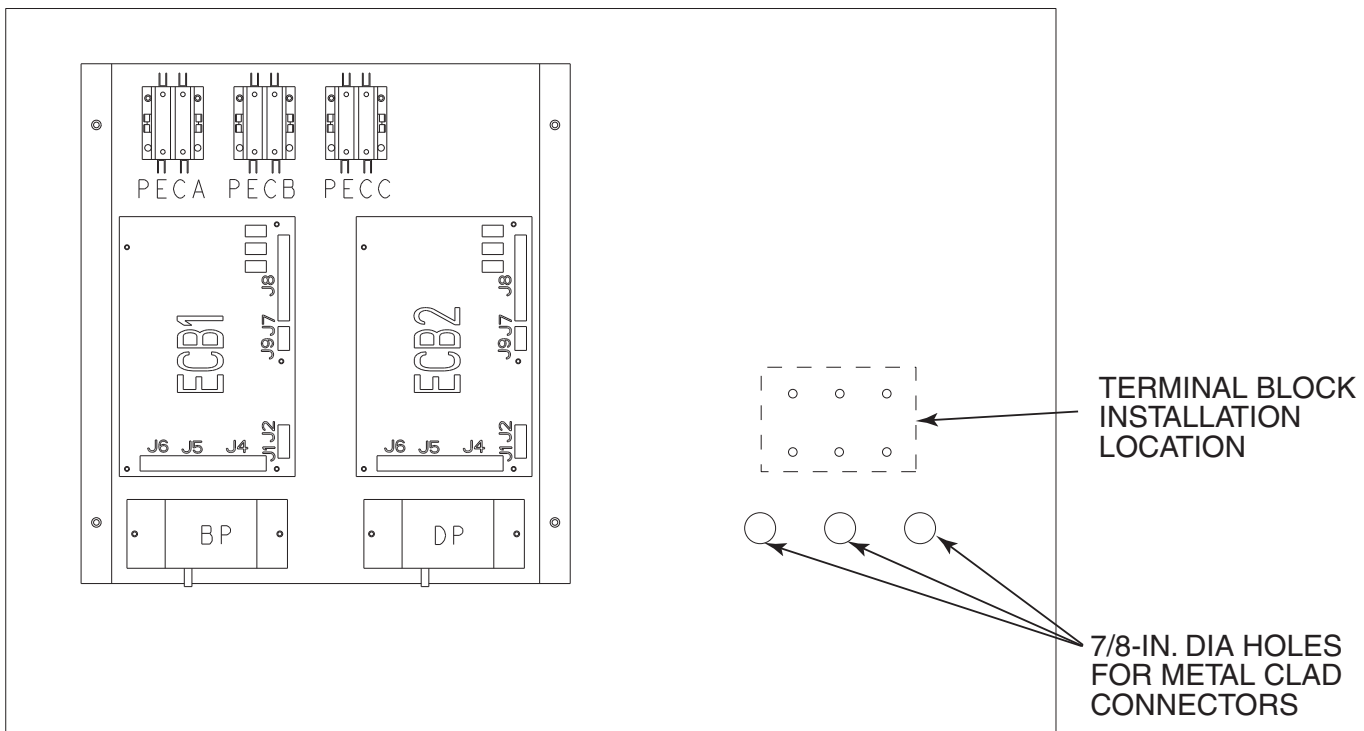

Fig. 3 — Auxiliary Control Box
- Open the unit filter access door. Remove the panel below the filters that covers the auxiliary control panel. See Fig 2. Mount the auxiliary control panel terminal block in the auxiliary control box in the location shown in Fig 3.
- Route the wires from the 20-ft long power exhaust control and power harnesses through the hole(s) in the auxiliary control panel. See Fig. 3. Secure the metal clad connector with the locknut.
5. Open the unit filter access door. Remove the panel below the filters that covers the auxiliary control panel. Mount the auxiliary control panel terminal block in the auxiliary control box in the location shown in Fig 3.
6. Route the wires from the 20-ft long power exhaust control and power harnesses through the hole(s) in the auxiliary control panel. See Fig. 3. Secure the metal clad connector with the locknut.